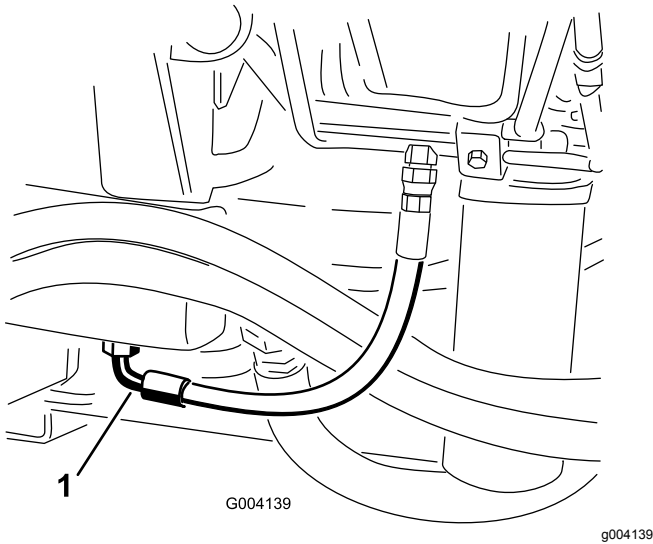

Figure 75
2. Place a large drain pan under the fitting secured to the bottom of the hydraulic fluid reservoir (Figure 75).